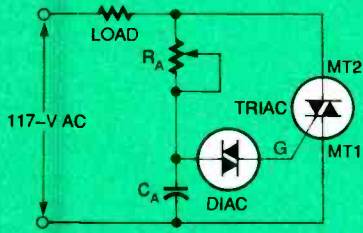

Fig. 1. A typical phase-control Triac circuit. Adjusting the resistance of  $R_A$  changes the time it takes to charge up  $C_A$ , and fire the diac.
You'll need a male DB-25 connector, along with a suitable length (4 to 6 feet) of seven conductor cable with ground wire, or a 9-conductor cable for PL1. You could also use a ribbon cable with a DB-25 male insulation-displacement connector (IDC) on one end as an alternative. The individual conductors on the free end of the ribbon cable can be separated for connection to the PC board. Thread the cable through the opening you made for it in the case, and wire the corresponding pads on the PC board to the cable wires using Figs. 1 and 3 as a guide.
**About the Circuit.** The heart of the blower speed control is the phase-controlled Triac circuit illustrated in Fig. 1. During each AC half-cycle, capacitor  $C_A$  is charged through adjustable